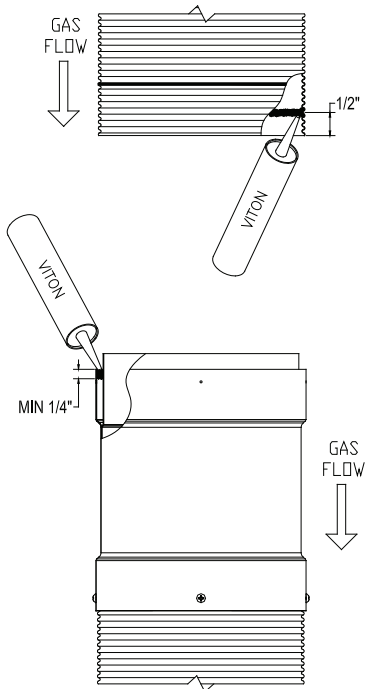

Figure 22 -Secure Seal Flex Viton® caulking
- 3.2. Add another bead of Viton® caulking at 1/2" from the edge of the flexible liner all around the inner side of it (Figure 22).